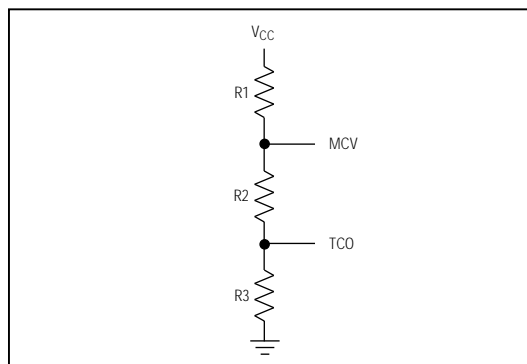
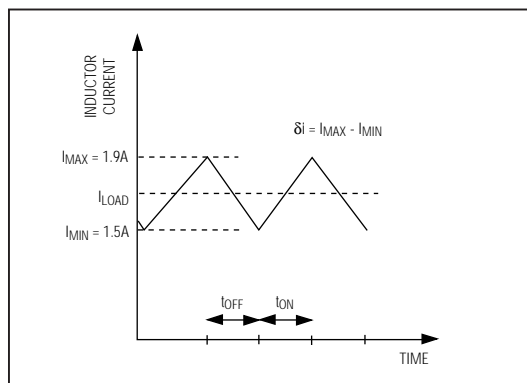

Figure 9. Resistor Configuration for MCV and TCO
Figure 10. Inductor-Current Waveform in Continuous-Conduction Mode
7) Select Maximum Cell Voltage (MCV) and Temperature Cutoff (TCO). The MCV and TCO can be selected with a resistor-divider combination (Figure 9). In our example, TCO has been set to +10°C, which corresponds to a voltage of 1.72V at the TS pin. The MCV for most fast-charge batteries can be set to about 1.9V. To minimize the current load on V_{CC} , choose R_1 in the range of 20k Ω to 200k Ω . In this example, choose $R_1 = 60.4\text{k}\Omega$, then calculate R_3 and R_2 as follows:
In order to provide high currents with minimum ripple, the device must function in the continuous-conduction mode. Figure 10 shows a current waveform of an inductor in the continuous-conduction mode (where the coil current never falls to zero).
The average load current (I_{LOAD}) through the inductor must be 1.7A, so a peak current (I_{MAX}) of 1.9A should give a fairly low ripple while keeping the inductor size minimal. This means that the total current change (Figure 10) across the inductor is $\delta = 2 (1.9 - 1.7) = 0.4A$.
The MAX2003/MAX2003A can use several other circuits to charge batteries. Figure 9 shows a circuit that uses a Darlington transistor to regulate the current a six-cell NiCd battery pack receives. Figure 10 shows a gated current-limited supply being used to charge a Duracell NiMH battery pack. Table 6 lists the external components used in these two application configurations.